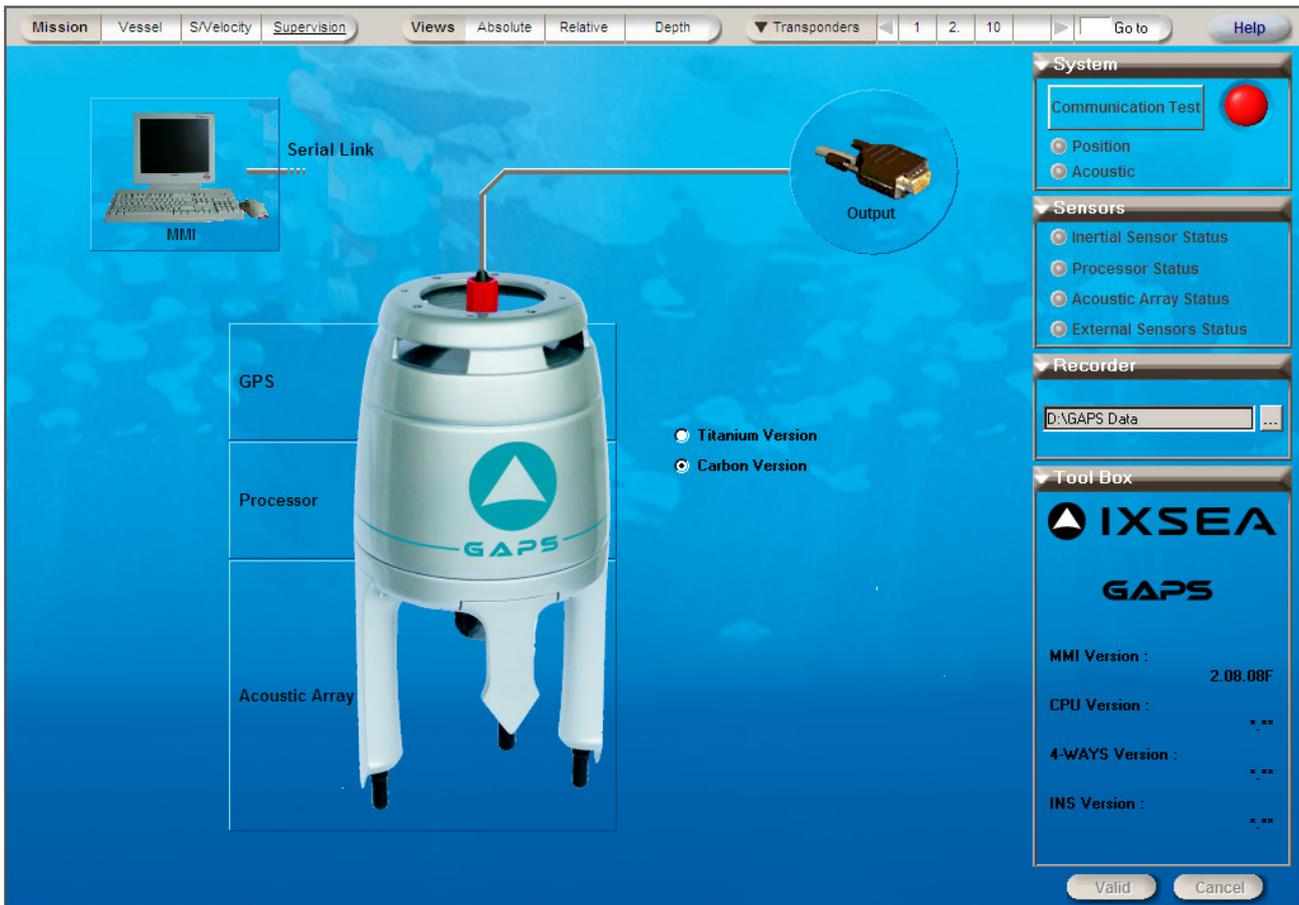

Figure 38 - Supervision Window
In the displayed window (see Figure 38), you can configure or display:
| 1. | In the Supervision display area (see Figure 38), click on Serial Link label. |
| 1. | In the Supervision display area (see Figure 38), click on MMI label. |
| 1. | In the Supervision display area (see Figure 38), click on GPS label. |
1. In the **Supervision** display area (see Figure 38), click on **Processor** label: